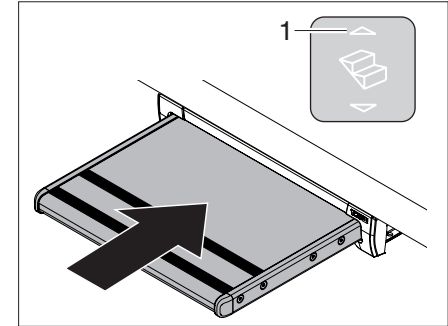

Fig. 4 Retracting the entrance step
- Press the rocker switch (Fig. 4,1) up until the entrance step has retracted completely.